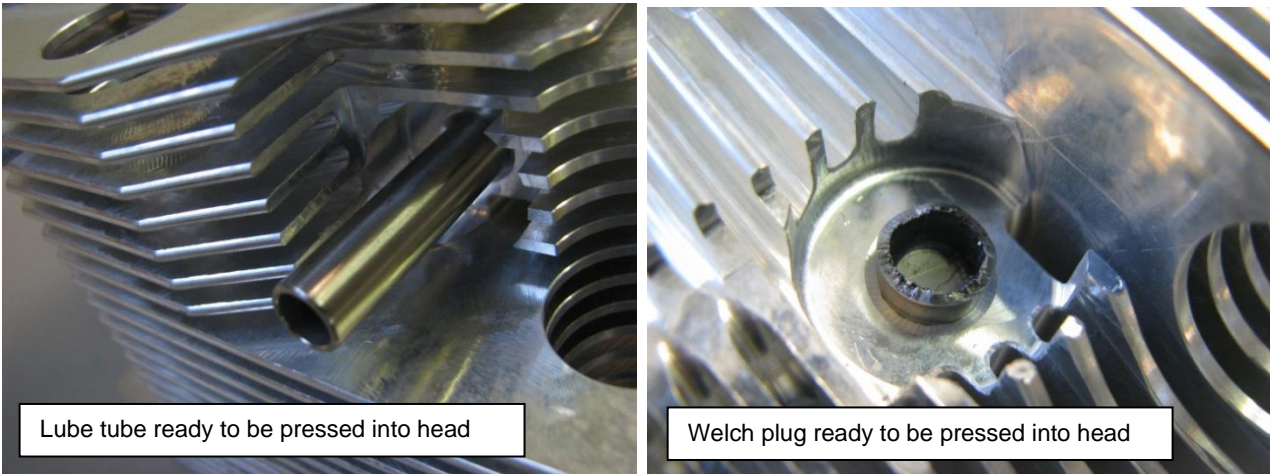

Figure 148 – Cylinder Head Welch Plug & Lube Tube Installation.
- If new heads are being fitted to an engine then in most cases some small Welch plugs must be fitted to the head. For engines using the external oil feed tube for the rocker gear small tubes must also be fitted to the head. Both of these parts are pressed into the cylinder head (Figure 148).
- For engines using the hollow pushrod oil feed the oil ports in the side of the heads are not used. In that case 2 Welch plugs (Figure 148, right) are fitted to the head – one on each side – to blank them off.